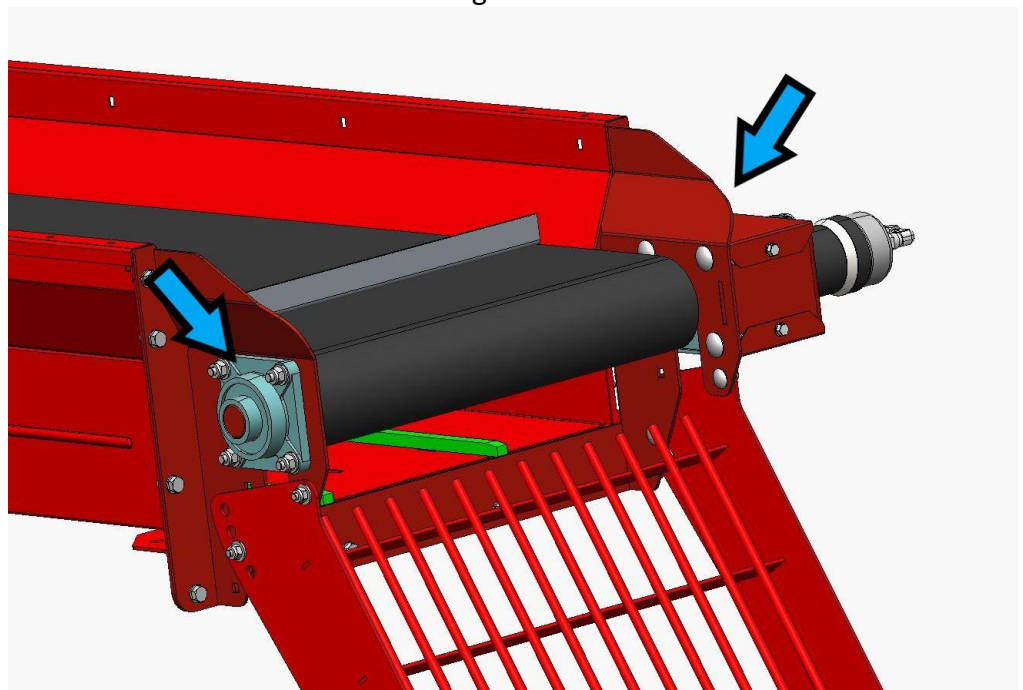

Figure 12.
4. Top roller nipples (2 pcs, Figure 12).